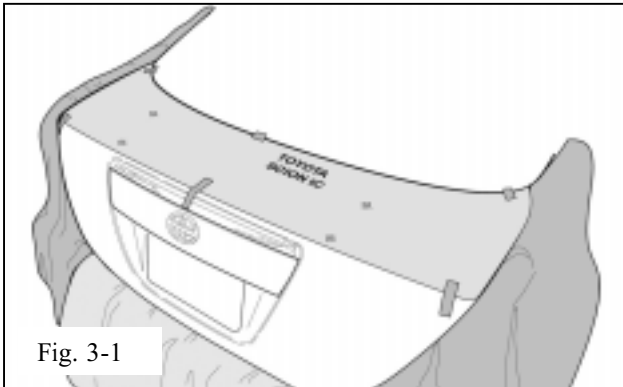

Fig. 3-1
- (d) Place the drilling template on the vehicle as shown. Tape in place, making sure template is completely smooth and flat on trunk lid surface. (Fig. 3-1)
- (e) Locate the four (4) hole locations on the template.